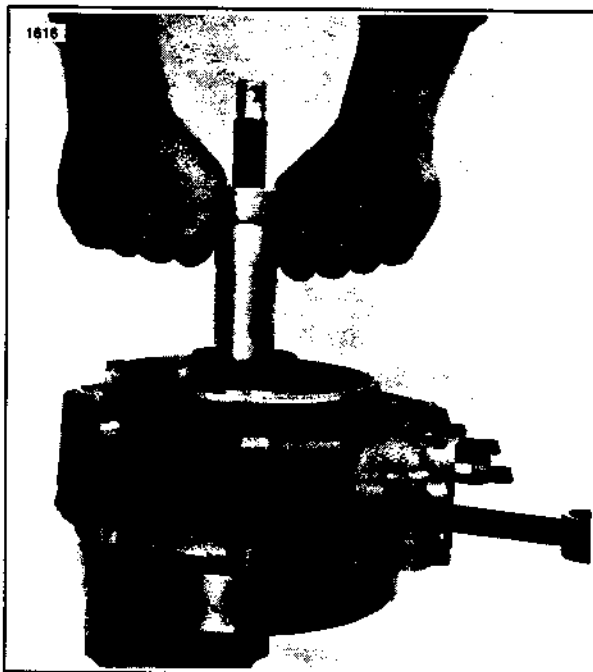

Figure 3. Pressing Flywheel Into Crankcase
3. See Figure 3. Slip the left crankcase half over the sprocket shaft. Install the small bearing inner spacer (2) that came with the bearing set. Position the sprocket bearing half (1) on the shaft squarely. Using BEARING INSTALLATION TOOL, Part No. HD 97225-55, press bearings tightly together.